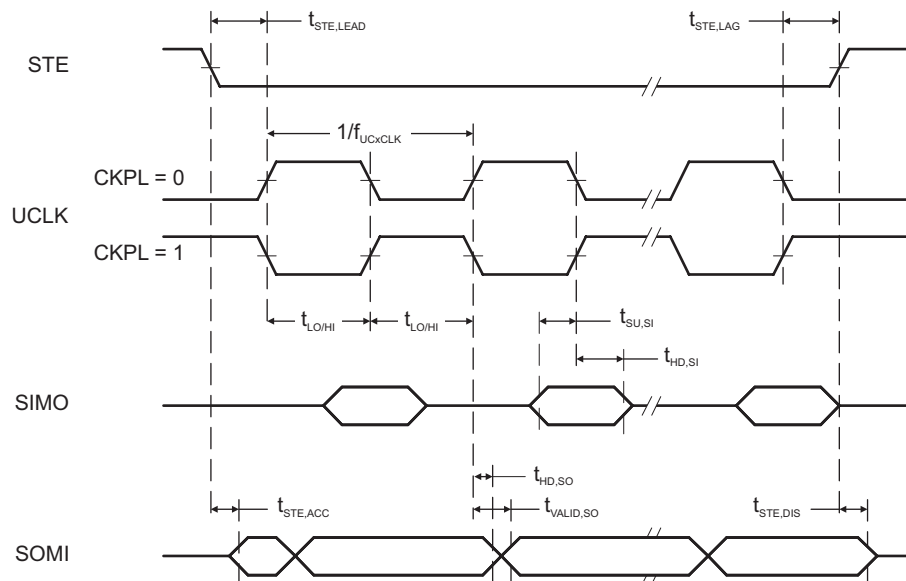

**Figure 5-13. SPI Slave Mode, CKPH = 0**
(see Figure 5-13 and Figure 5-14)
(2) Specifies the time to drive the next valid data to the SOMI output after the output changing UCLK clock edge. See the timing diagrams in Figure 5-13 and Figure 5-14.
(3) Specifies how long data on the SOMI output is valid after the output changing UCLK clock edge. See the timing diagrams in Figure 5-13 and Figure 5-14.